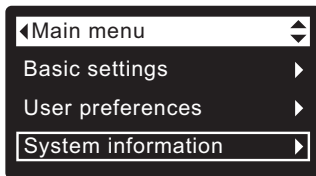

FIG. 61
1. From any of the rolling status screens, press the SELECT (O) button to display the **Main menu**.
2. Press the DOWN (▼) button to scroll through the menu options until **System information** is highlighted (See Figure 61).